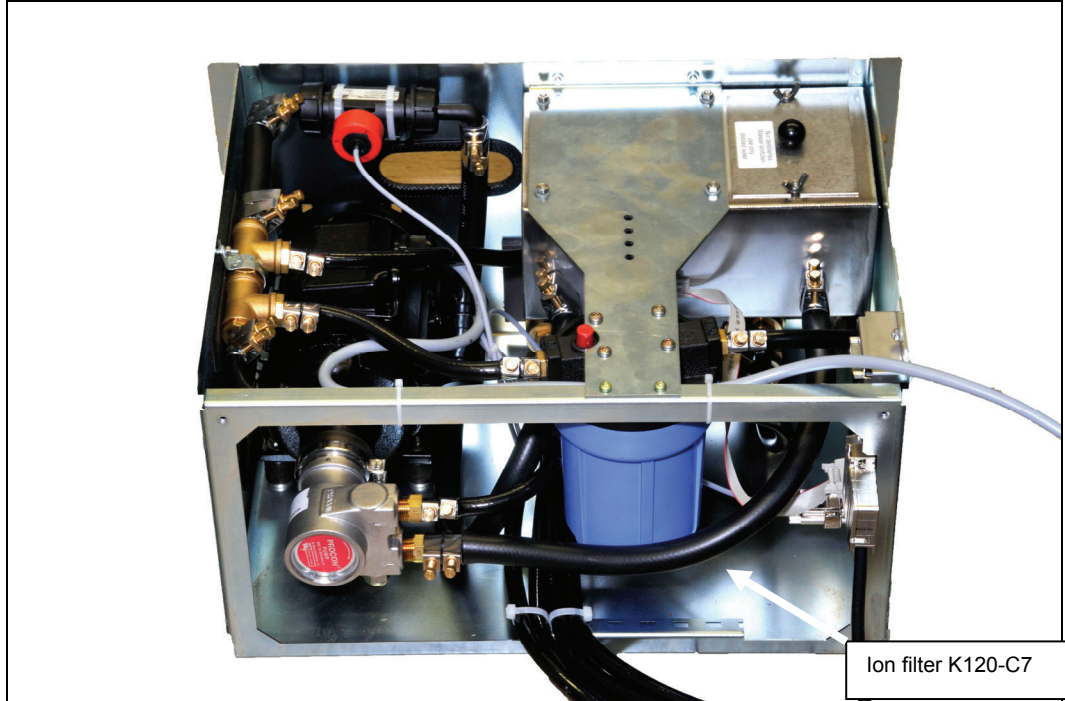
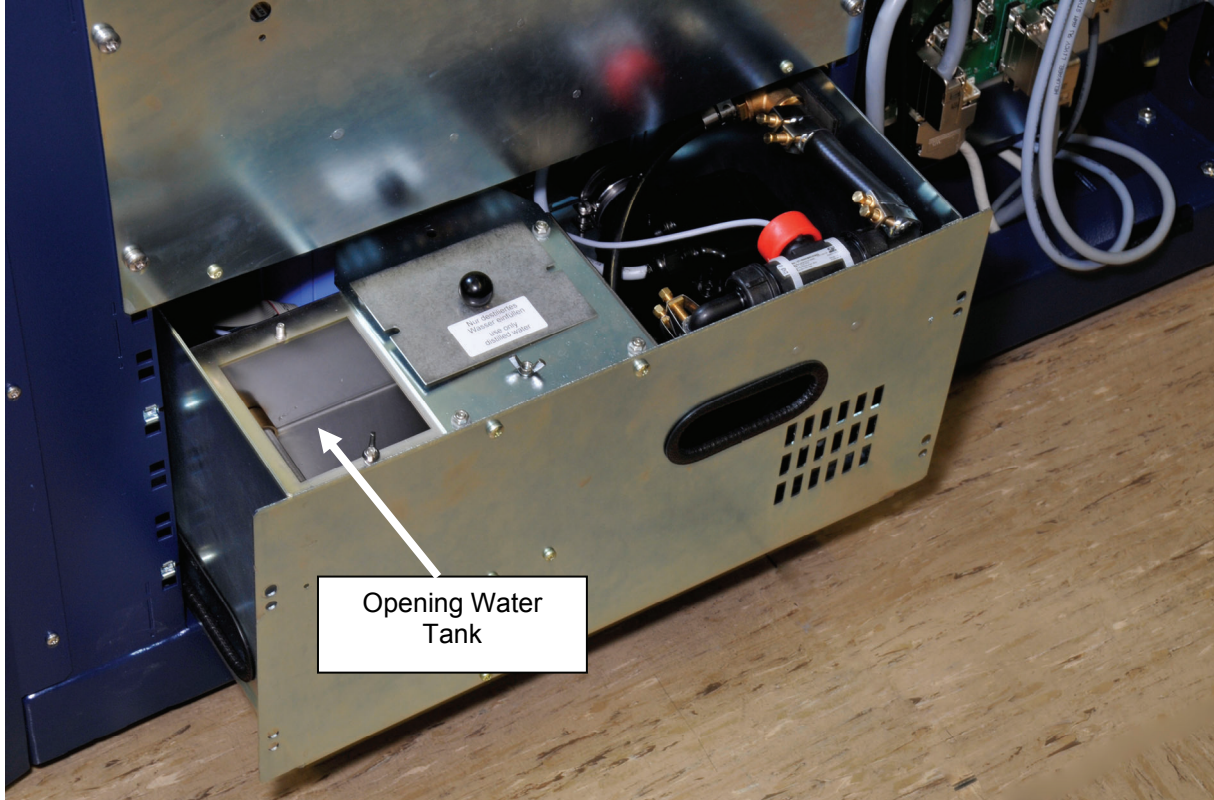

Fig. 15: Rear view of the optional internal cooling water unit (A14-A6).
Fig. 16: Refilling the water tank of the internal cooling water supply. Water tank is already open.
- Move the cooling unit slightly out of the cabinet (Fig. 16).
- Open the cover of the water tank (Fig. 15, Fig. 16).